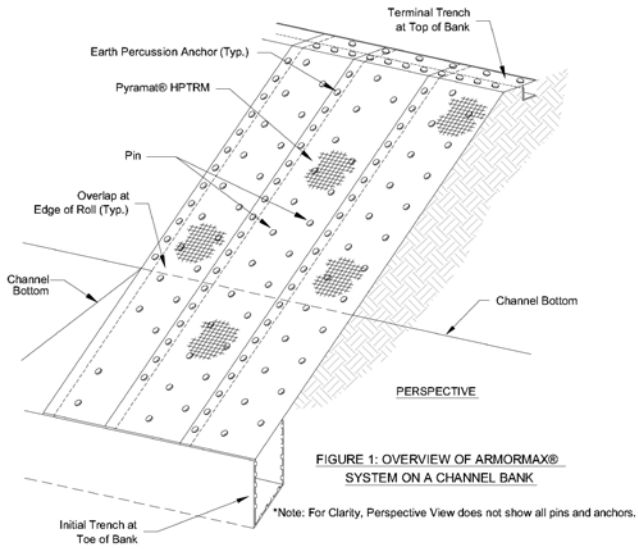

FIGURE 1: OVERVIEW OF ARMORMAX® SYSTEM ON A CHANNEL BANK
- Figure 1 shows general installation layout and details for Armormax™ System on a channel bank.